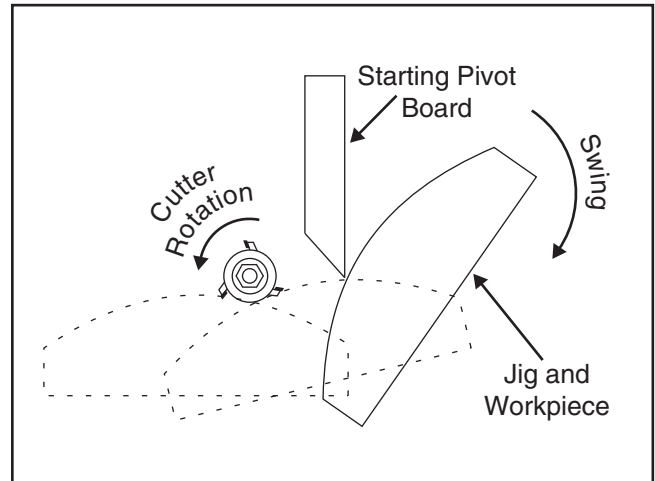

Figure 35. Illustration of free-hand cutting with a starting block.
Irregular or free-hand routing, as illustrated in **Figures 35**, takes a high degree of skill and dexterity and is done without the protection and aid from the fence and guard. The most dangerous part of free-hand routing is beginning the cut, where the cutter first contacts the workpiece. Often the workpiece will tend to jerk or kickback, presenting an injury hazard to the operator.
8. Rest the jig with the workpiece attached against the starting block, then slowly pivot and feed it into the bit. After the cut is started, move the jig against the rub collar and away from the starting block, as illustrated in **Figure 35** on the previous page.